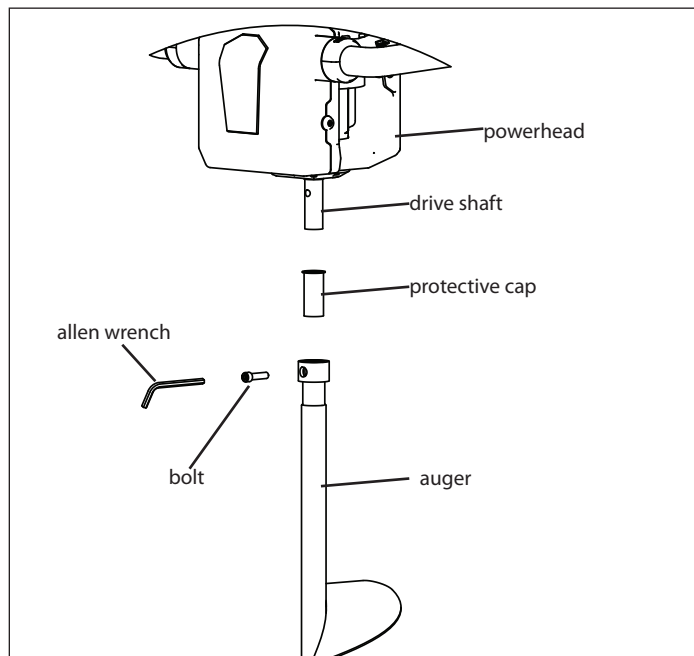

Figure 1
3. Remove the protective plastic cap from the drive shaft. Insert the drive shaft of the powerhead into the collar of the auger assembly. **SEE FIGURE 1.**
- Remove the auger from the powerhead and apply a thin layer of grease to the drive shaft. **SEE FIGURE 1.**